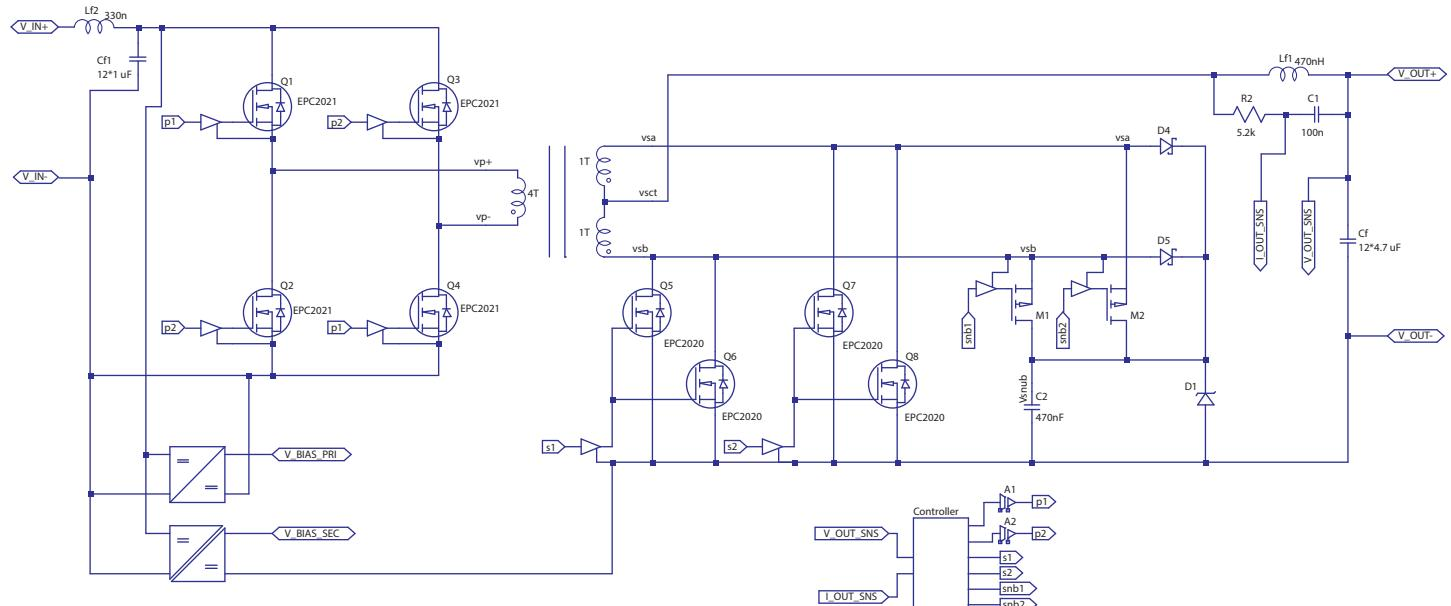

Figure 1: Block Diagram of EPC9115 Demonstration Board
A complete block diagram of the circuit is given in Figure 1. The converter uses a full-bridge (FB) primary power stage, a 4:1 transformer, and a center-tapped (CT) output stage with active reset snubbers. Control is provided by a Microchip dsPIC® controller, and basic voltage mode control is implemented. For more information on the EPC2020 and EPC2021 eGaN FETs, as well as the gate drivers and controller, please refer to the datasheets available from EPC at [www.epc-co.com](http://www.epc-co.com), [www.ti.com](http://www.ti.com), and [www.microchip.com](http://www.microchip.com). These datasheets, should be read in conjunction with this quick start guide.